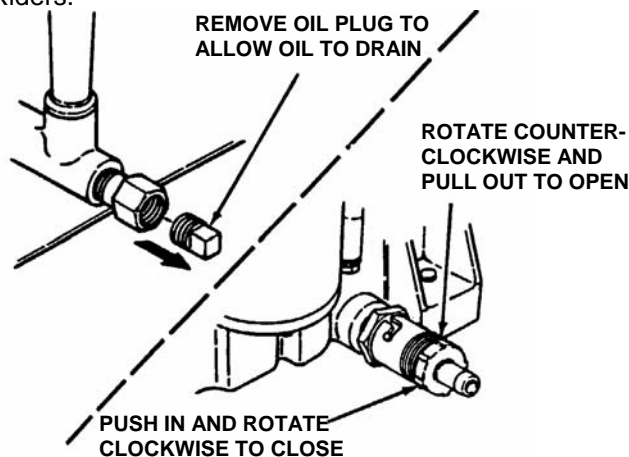

FIGURE 3.1
4. Place a 2 quart minimum capacity container under the end of the oil drain. Open oil drain. See Figure 3.1 for oil drains used on the Rear Engine Riders.
5. After all the oil has drained, close the drain and wipe up any oil that may have spilled. See Figure 3.1. Dispose of used oil properly.